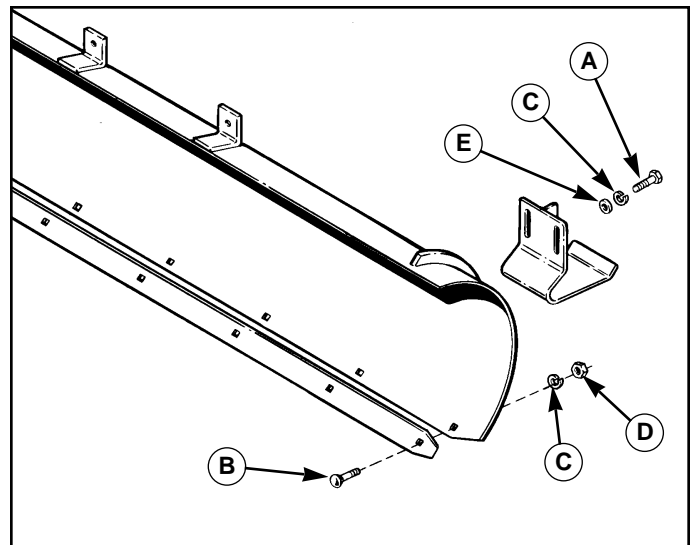

Figure 3. Skid Shoes and Scraper Bar
1. Loosen the capscrews (A, Figure 3) securing the skid shoes.
3. Set the skid shoes so that they are in contact with the ground and tighten the capscrews (A, Figure 3).
2. Remove the carriage bolts (B, Figure 3), lockwashers (C), and nuts (D).
4. Secure the scraper bar to the blade using the carriage bolts (B, Figure 3), lockwashers (C), and nuts (D), removed in step 1.